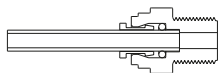

**Figure 2**
7. Fit tubing into connectors (for quick-connect fittings instructions see Fig. 2). Allow slack in the tubing.